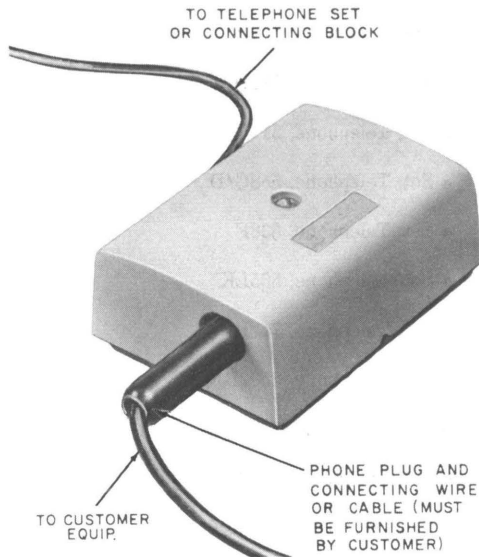

Fig. 1—30-Type Voice Coupler
**2.02 Ordering Guide (Fig. 1 and 2):**